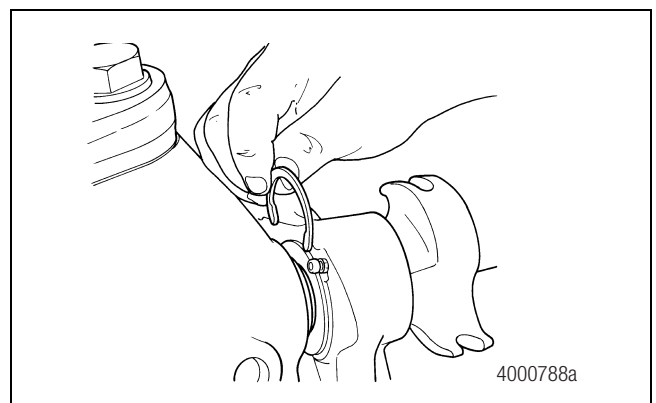

Figure 6.16
12. Install the retaining ring onto the camshaft at the back of the spider assembly. Figure 6.16.